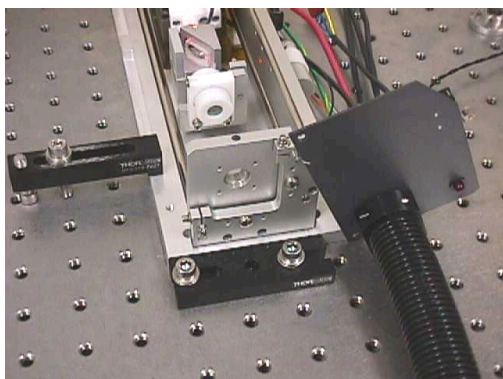

FIGURE 20
- **Tighten** the four (4) #2-56 x 3/8 SHD (2825-6685) screws, four (4) #2 split lock washers (2825-8055), and four(4) #2 big OD flat washers (2825-8052).
- **See** Figures 20 and 21.